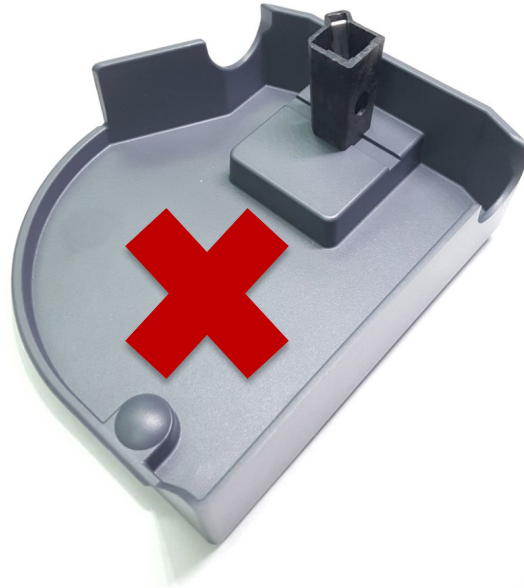

Figure 1: Thermo GENESYS 30 baseplate (Remove - Do Not Use)
2. Remove the Thermo baseplate from the GENESYS 30 Spectrophotometer; it will not be used and can be stored in the original product box. The Thermo baseplate is held in place with magnets and lifts out. See *Figure 1* below.